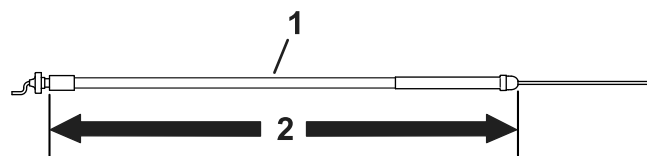

Figure 6
- Use the throttle cable that is 172.2 cm (67-13/16 inches) long for a Model 04056 traction unit; refer to Figure 6.